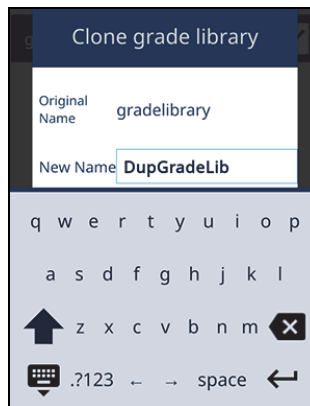

Figure 2-70 Clone Grade Library dialog box
1. On the **Grade Libraries** screen, select a library and tap the **Clone** button () to open the **Clone Grade Library** dialog box (see Figure 2-70 on page 83).